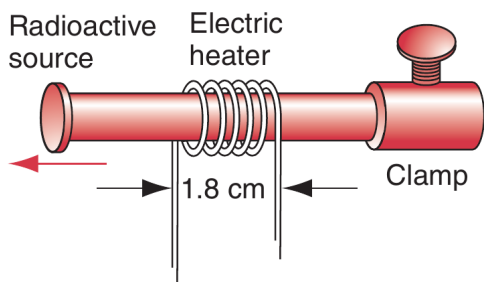

FIGURE 21-18. Problem 6.
6. In a certain experiment, it was necessary to be able to move a small radioactive source at selected, extremely slow speeds. This was accomplished by fastening the source to one end of an aluminum rod and heating the central section of the rod in a controlled way. If the effective heated section of the rod in Fig. 21-18 is 1.8 cm, at what constant rate must the temperature of the rod be made to change if the source is to move at a constant speed of 96 nm/s?